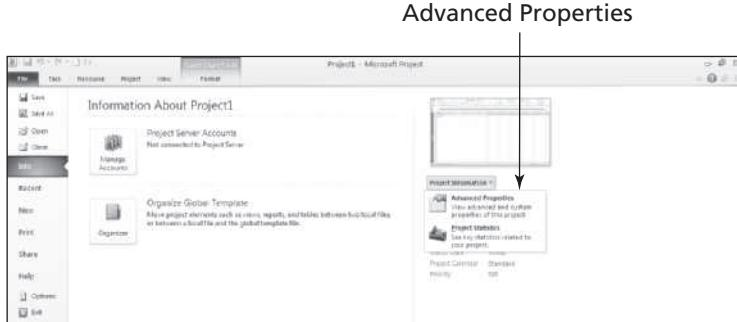

FIGURE A-17 Accessing advanced project properties
4. Access advanced project properties. Click the **File** tab, and then click **Info**. Click **Project Information** on the right side of the screen to access Advanced Properties, as shown in Figure A-17.